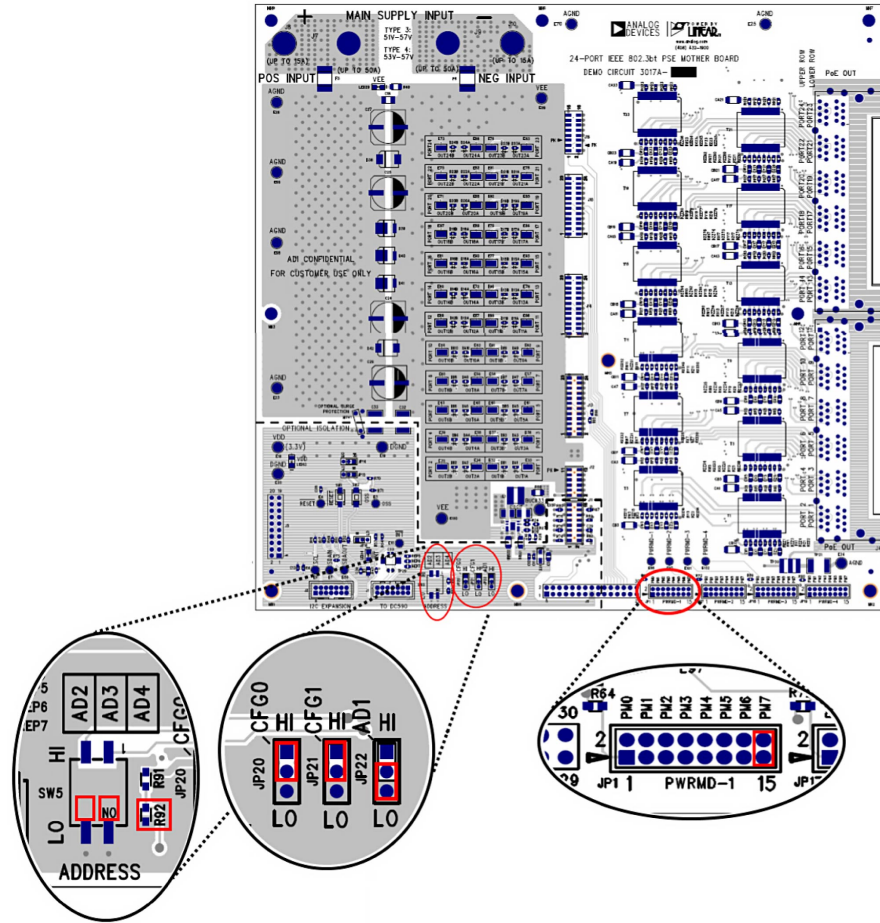
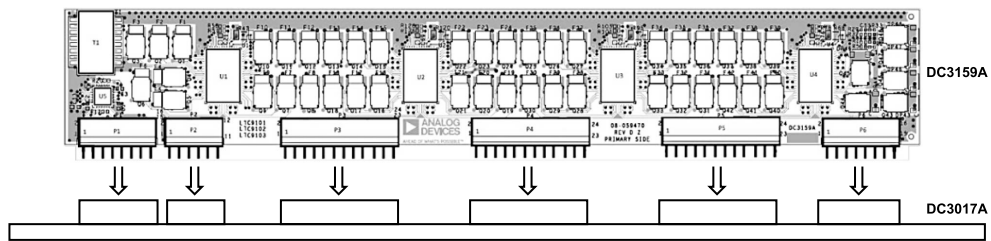
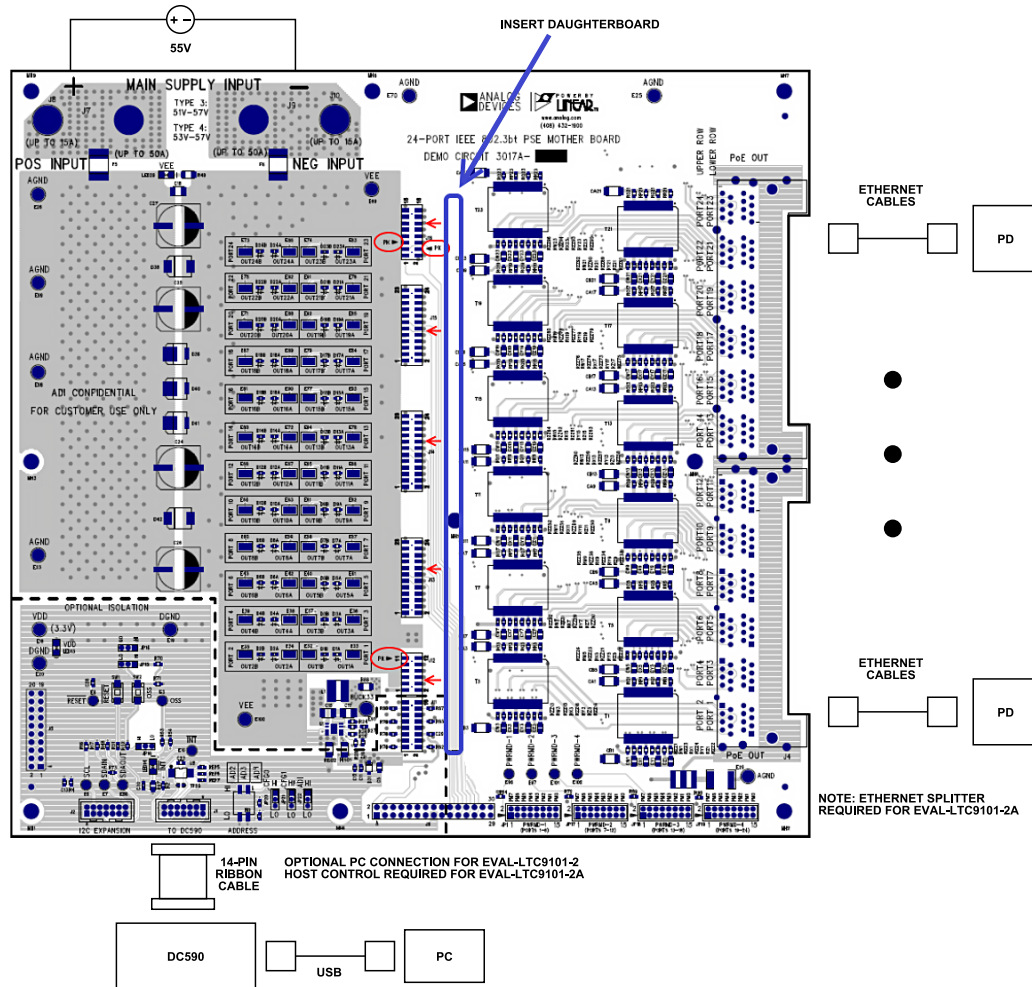

Figure 2. Default Settings for DC3017A-B Motherboard, Jumpers PWRMD0, AD1, CFG0, and CFG1; Switches: AD2 and AD3; Resistor options for AD4
Figure 3. Inserting the DC3159A Daughter Card into J1 through J6 of the DC3017A-B Motherboard
Figure 4. EVAL-LTC9101-2-KIT Connections
Follow the procedure below and see Figure 2 through Figure 4, and Table 2 through Table 4 for proper equipment setup and default configuration.
- Align pin 1 of the 16-pin male connector P1 on the DC3159A daughter card with pin 1 of the 16-pin female connector J11 on the DC3017A-B motherboard as shown in Figure 3. The six male connectors and six female sockets should match. Keyed pins in J16 and J12 assist with the alignment shown in Figure 4. Carefully push the daughter card straight down until the male and female connectors are flush with each other.
- Connect a supply to the DC3017A-B motherboard with the positive rail to POS INPUT (+) and negative rail to NEG INPUT (-) as shown in Figure 4. Use a power supply capable of sourcing the maximum power for all ports to be tested. Ramp the supply up to within the recommended voltage range specified in Table 4.
- Connect the DC590B or other I²C host controller at 14-pin connector (J1) as shown in Figure 4. Host control is required for EVAL-LTC9101-2A.
- Connect IEEE 802.3af, 802.3at, or 802.3bt PDs to the motherboard's RJ45 connectors J3 and J4, as shown in Figure 4.
When inserting or removing the daughter card into the DC3017A-B motherboard, verify all supplies and LEDs are off. Push the card straight down for insertion or pull straight up for removal to avoid bending the connector pins. Follow the instructions in the Quick Start Procedure for alignment and see Figure 3.